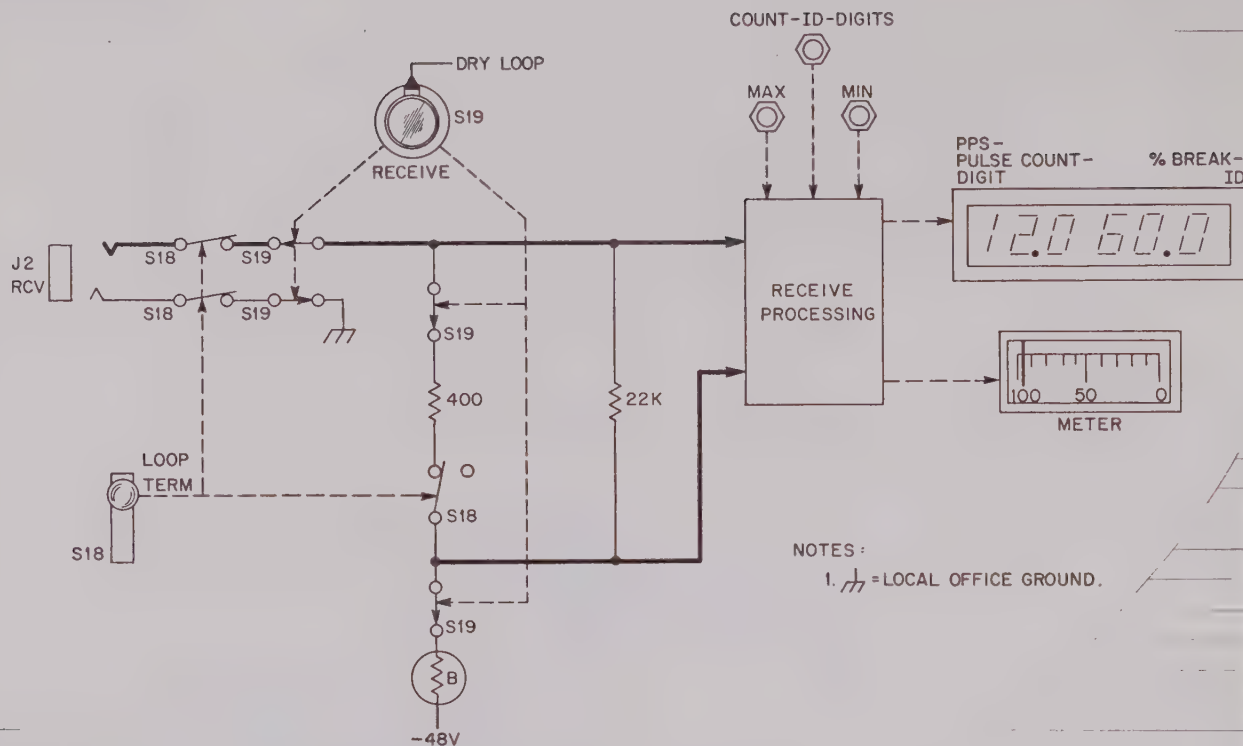

Figure 4-9. Receiving Dry Loop
4.50 To receive only on a dry or wet loop (battery and ground) basis, perform the following steps. See Figures 4-9, 4-10, and 4-11 for the illustrations that show the LOOP RCV jack in relation to the internal circuits that define the conditions appearing at the tip and ring.